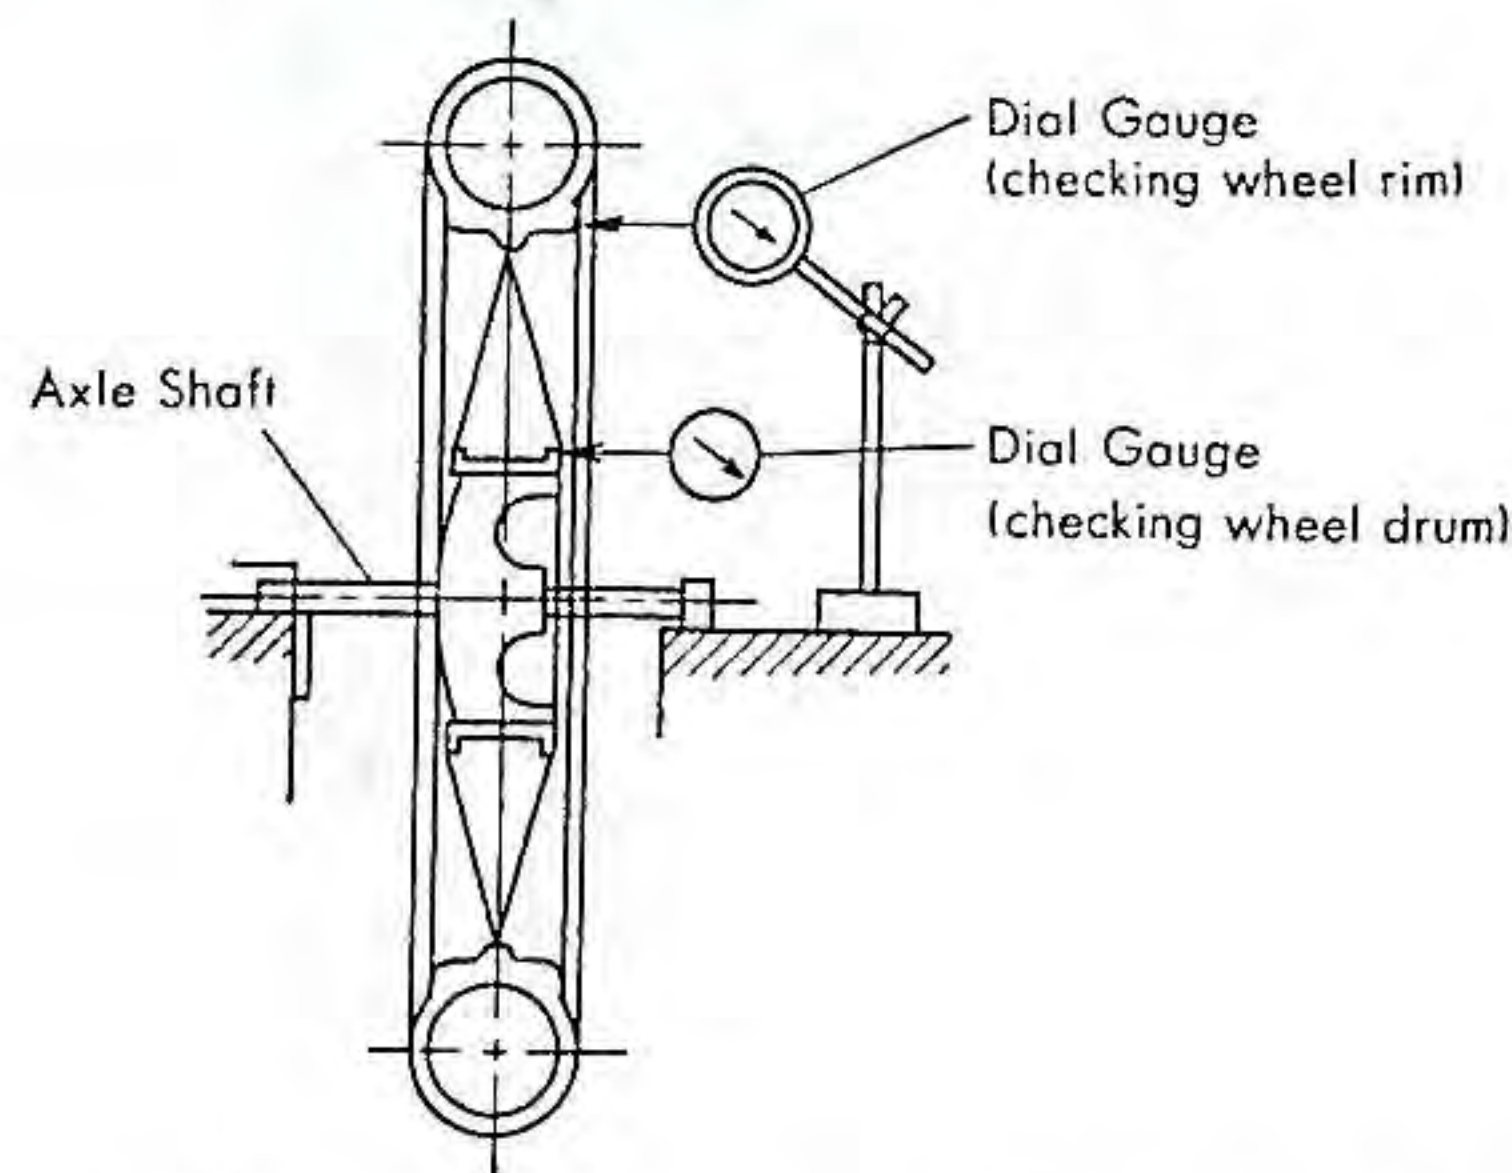

Fig. II-26. Checking run-out of wheel at rim and drum
- (1) Repair tyre and tube if necessary, and push the tube back between the tyre and rim, aligning the tube valve with hole in rim and making sure that the tube is not twisted. Using the tyre levers to pry the bead in the rim all around. Gradually inflate the tyre ensuring the bead fits into the rim up to the pressure of 32 lbs/in².
- (2) Wash all bearings thoroughly and check for excessive radial play and roughness. Replace if it is in bad condition. Repack grease completely on the bearings and fit into hub.
- (3) Check oil seal and "O" rubber ring on the hub for distortion and replace if it is deemed unserviceable.
- (4) Install the rear axle through the bearings and hold the axle between blocks (refer to Fig. II-26), set a dial gauge on the face of the rim and hub drum and turn the wheel gently, reading the amount of run-out. If run-out of the drum exceeds 2.0 mm (0.08"), replace the drum.